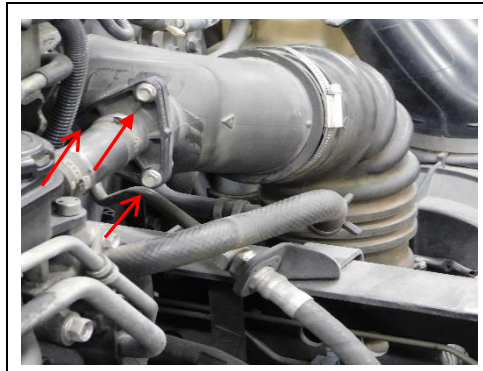

Figure 3
1. Remove three (3) 10mm bolts from the PCV flange pipe and loosen the PCV flange from inlet pipe. (See Figure 3.)